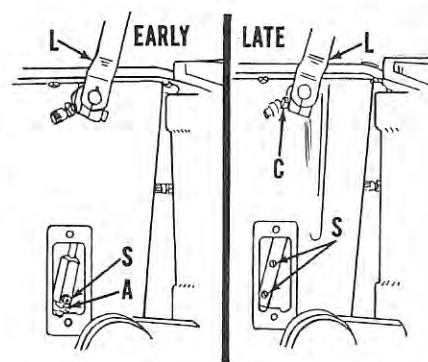

Fig. H15—Upper motor leg with shift linkage access plate removed. Models before Serial Number 1,400,000 are shown on left.
POWER HEAD R&R. To remove the complete power head, first remove the engine cover and rear shroud. Disconnect the carburetor linkage at the bellcrank, the fuel line at the fuel pump inlet, and the remote control electrical cable at the junction block. Disconnect the water inlet hose, the telltale water line; and the nut and clamp which secures oil pan lower flange to mounting plate. The power head is secured to lower unit by two socket head cap screws located on each side of mounting plate and two hex head cap screws on underneath side of mounting plate, just in front of lower unit upper leg. Attach a hoist to the power head lifting eye and raise the hoist to remove the slack. Remove the access plate from starboard side of lower unit upper leg and disconnect the shift linkage as shown in Fig. H15. **NOTE:** On early units, loosen the set screw (S) to allow the upper and lower shift links to separate. On late units remove the two slotted head screws which secure the two links.